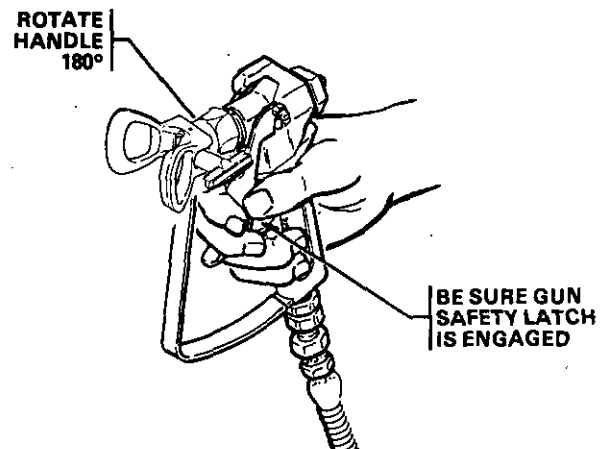

Fig 6
- b. If the spray tip does clog, release the gun trigger, engage the gun safety latch, and rotate the RAC IV handle 180°. See Fig 6.